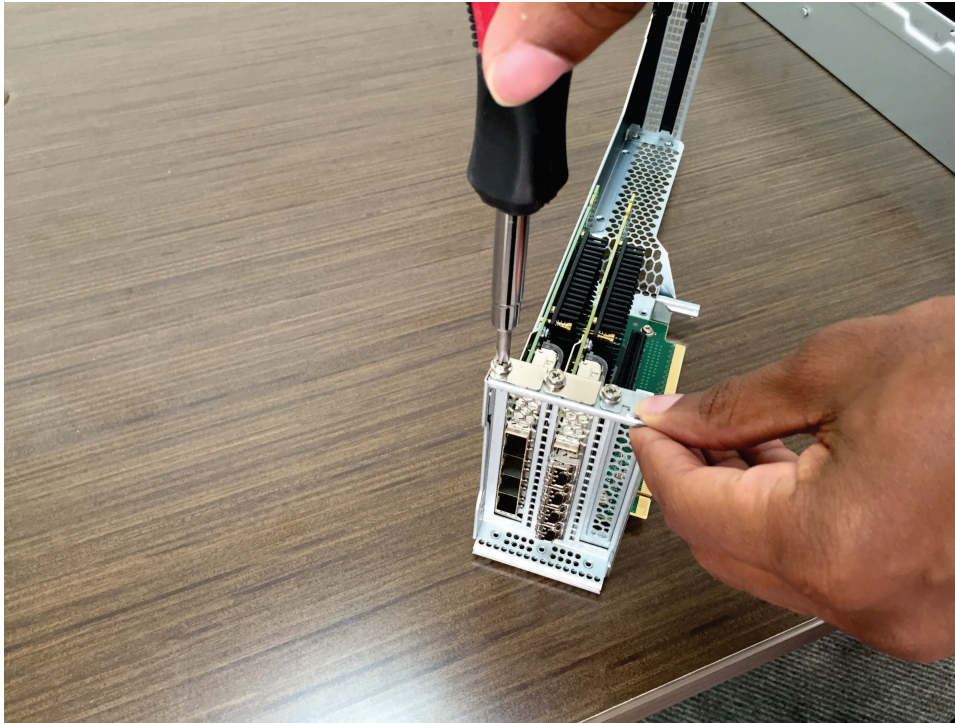

Figure 245. Removing the retaining screw
2. Remove the retaining screw that secures the adapter to the adapter assembly, as Figure 245 shows.